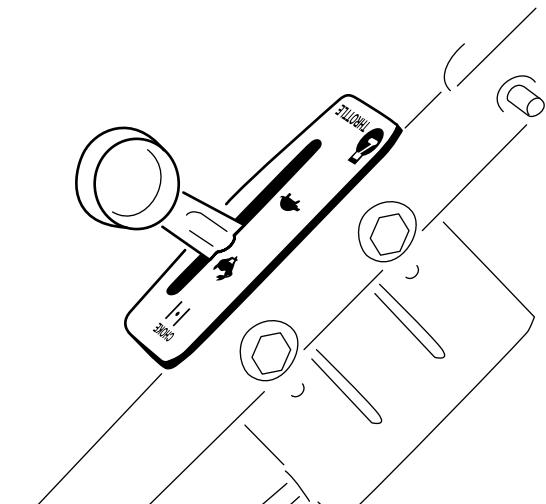

Figure 9
A. Set the throttle control to the Fast position (Figure 9).